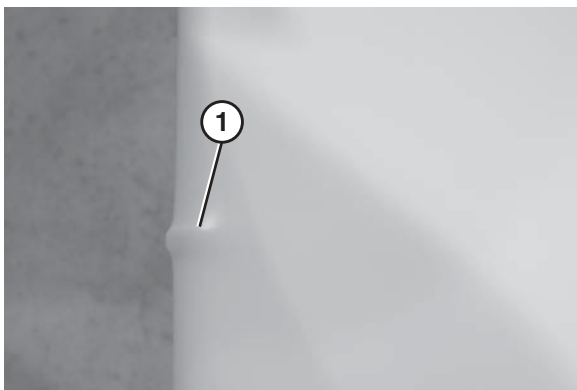

Figure 48
For v-guide belts, track until the bulge in the conveyor belt (Figure 48, item 1) lies flat.